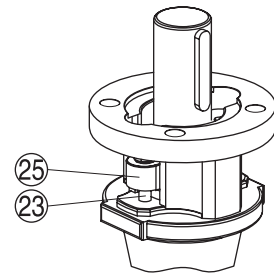

Figure 7 Check of gland bridge nut
*Tighten the packing just enough to prevent stem leakage. Over-tightening will decrease packing life and increase operation torque (see Figure 7).*